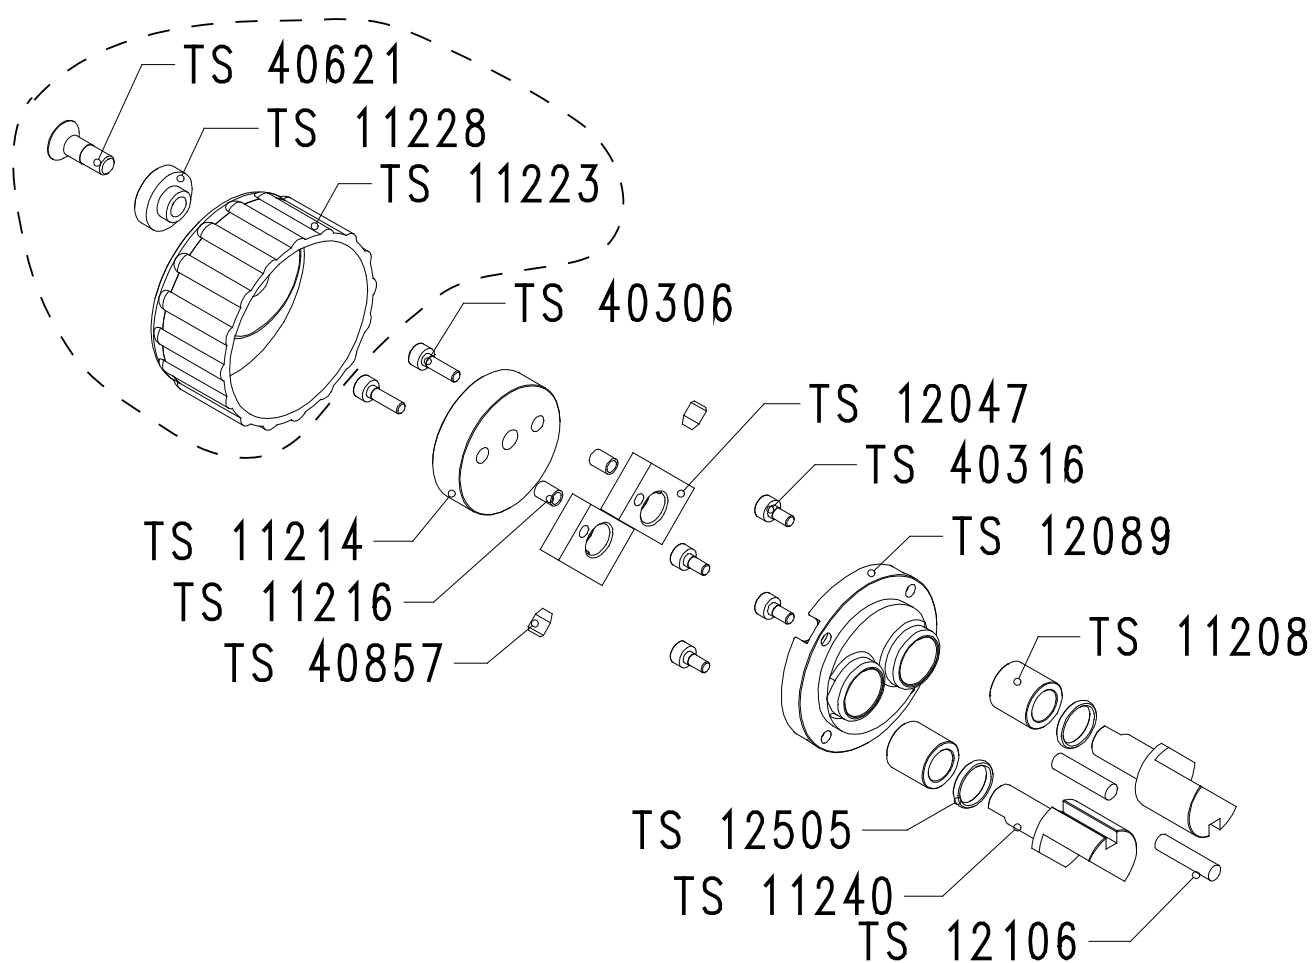

Figure 13-8: tape cleaner assembly TS 10206, details
- Figure 13-8: tape cleaner assembly TS 10206, details